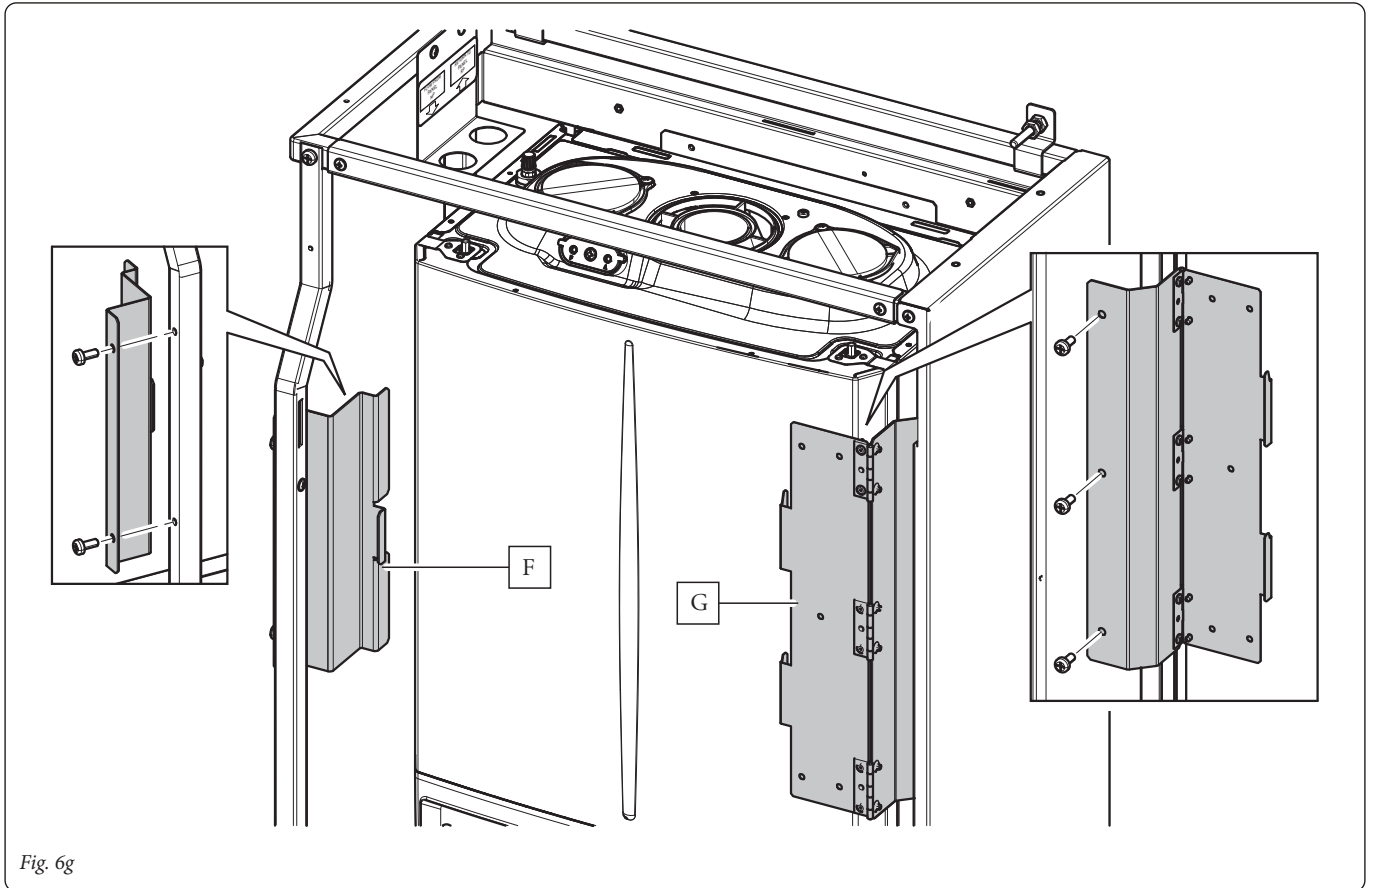

Fig. 6g
- Tighten the brackets (F and G) to the Domus Container as shown in Fig. 6g.